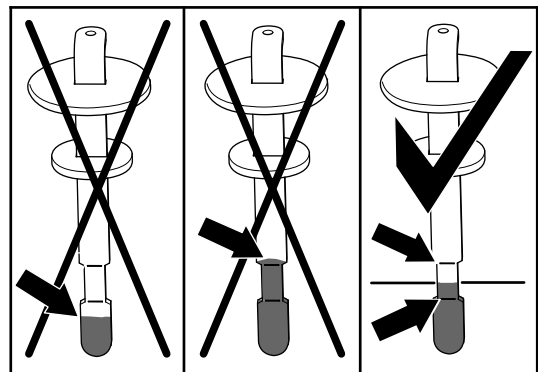

Figure 122
6. Remove the dipstick and check the fluid level (Figure 122).